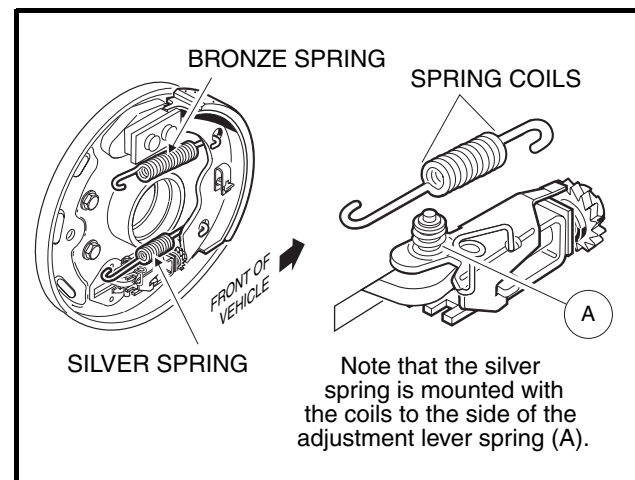

**Figure 6-12 Trailing Shoe**
1. Turn the adjusting wheel screw so the shoe slot is vertical, then position the trailing shoe in the slots in the shoe mounting block and adjuster assembly (Figure 6-12, Page 6-6). See following NOTE.
**NOTE:** The trailing shoe has 17T stamped into the tip of the shoe flange (Figure 6-12, Page 6-6). The leading shoe is stamped 17L. When installing the shoes, the stampings on both shoes should be oriented to the top of the brake assembly. When installing the shoes on the passenger side of the vehicle, the side of the trailing shoe flange marked 17T should be facing out and be visible. On the driver side, the 17L on the leading shoe should be facing out and be visible.